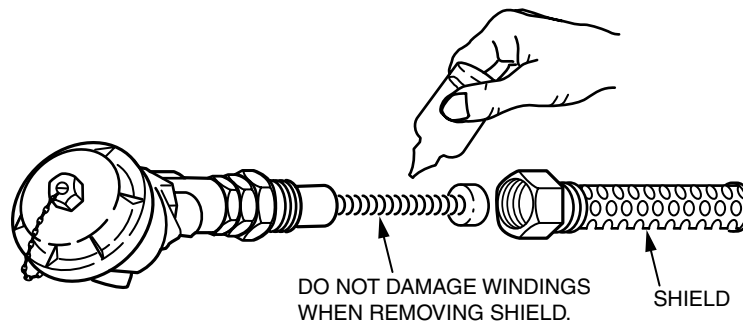

Figure 11. DEWCEL Element
2. Gently squeeze lithium chloride bottle and direct stream onto windings (see Figure 11) along length of element. Repeat around circumference of windings until fabric is completely saturated.